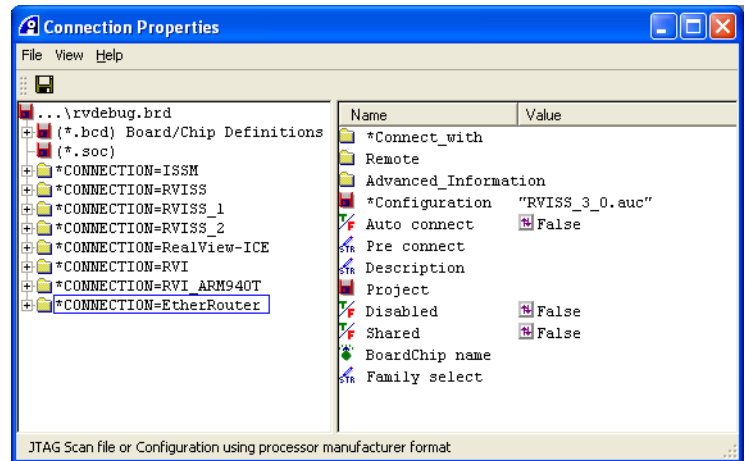

Figure 5-4 Connection Properties for the EtherRouter Debug Configuration
3. Click the **Advanced** button to open the Connection Properties window. The new configuration group is selected. Figure 5-4 shows an example.